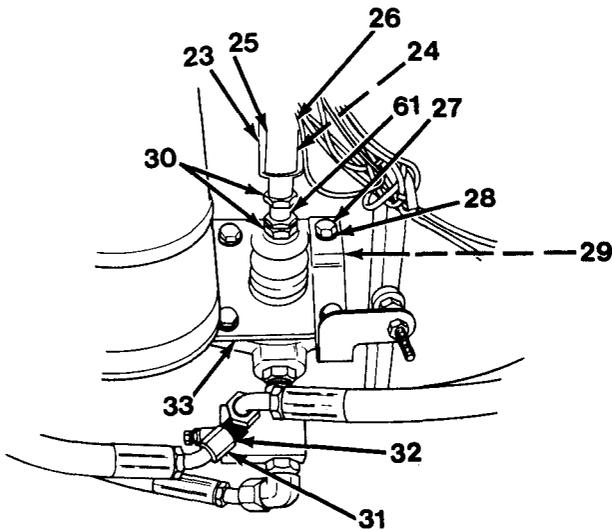

Figure 17-3
1. Install yoke (25), push rod (61) and jam nuts (30, Figure 17-3).
2. Install O-ring (32) and two elbows (31) to master cylinder (19).
3. Position brake booster valve (29), master cylinder (19) and brake pedal stop bracket under dash on mounting bracket (33).
4. Install four washers (28) and capscrews (27).
5. Attach yoke (25) to brake pedal (26) using pin (24).
6. Install new cotter pin (23) in pin (24).